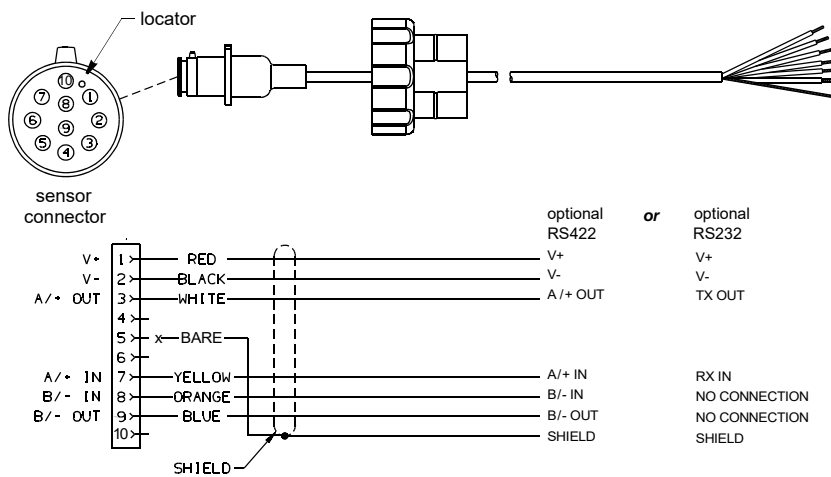

Figure 4. NMEA 0183 sensor cable
If your sensor cable does not have a connector on the display end, it must be hard wired. Referring to the owner's manual that came with your display, connect the colored wires as shown in Figure 4.
**CAUTION:** Your sensor has either an RS-422 or RS-232 standard. You must follow the wiring diagram in Figure 4 that matches your sensor. If it is wired for the wrong standard, it will not transmit and receive data properly.
2. Strip 60 mm (2-1/2") of the outer jacket and foil shielding from the cut end of the cable (Figure 4).